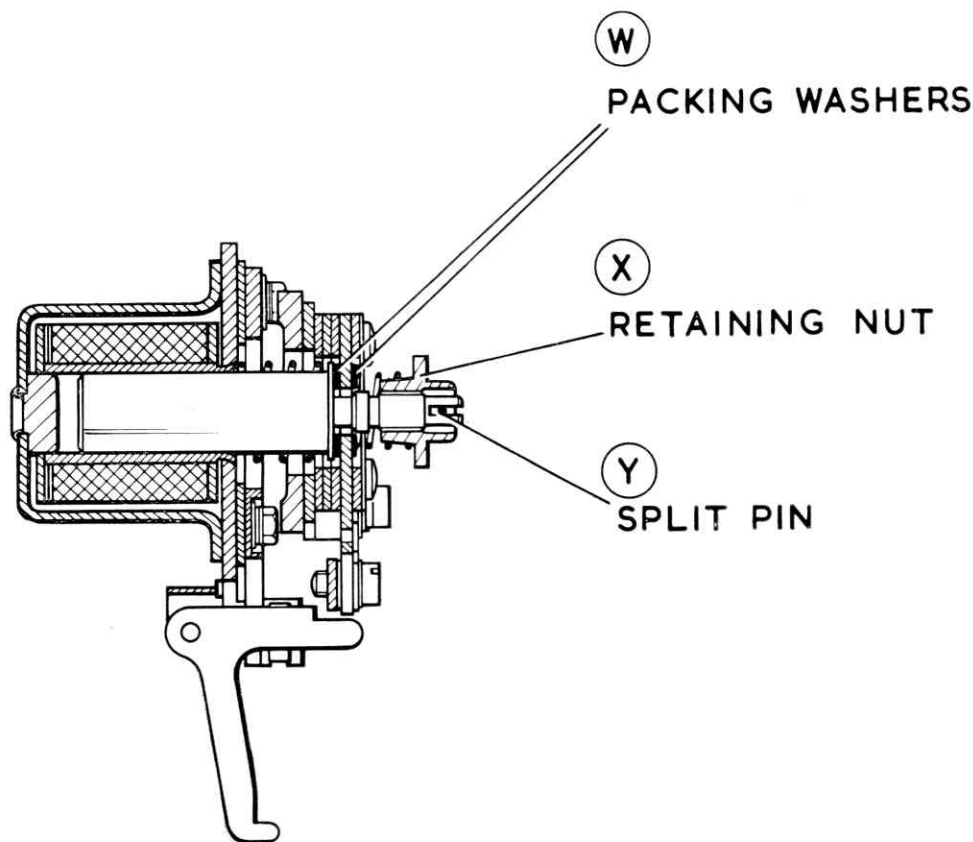

FIG. 119. THE STARTER SWITCH
1. With both contact faces of moving contact assembly closed on fixed contacts, armature to travel on an additional 1.0/1.3 mm. (0.039/0.051 in.), adjust by varying the number of washers (W) Fig. 119.
2. Assemble contact pressure spring and retaining nut (X), screw nut down until just touching spring, then screw down a further two turns. Temporary lock by passing the split pin (Y) through hole in nut and slot in armature.
4. Adjust gap (A) by varying number of washers so that the gap is 1.4/1.8 mm. (0.055/0.070 in.) when the moving gap is closed and trip lever is engaged with the trip lever stop.
5. The armature is to travel fully home in one movement with coil current not exceeding 3.0 amps. If necessary slacken back the retaining nut (X) by a quarter turn to obtain the single closing movement required, and complete the locking of pin (Y)